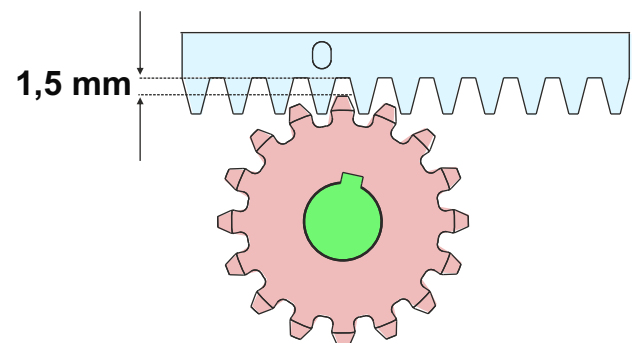

Fig. 12
- 7.6. To avoid that the gate weights down the pinion - Fig.12 - lift up the whole rack of about **1,5 mm**. **CAUTION! KEEP A GAP OF ABOUT 0,5 mm BETWEEN THE PINION TOOTH AND THE GEAR RACK TOOTH;**